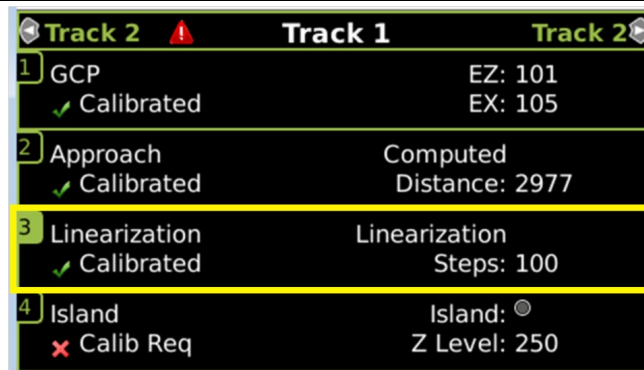

Figure 9 Linearization Values
Step 30	Verify that the computed approach distance (Comp Dist, Step 5) and the linearization steps (Linearization Steps, Step 9) values recorded on the Calibration Values History form (Table 11 and Table 12) for the first approach are the same as those displayed on the Track "N" window (see Figure 9).